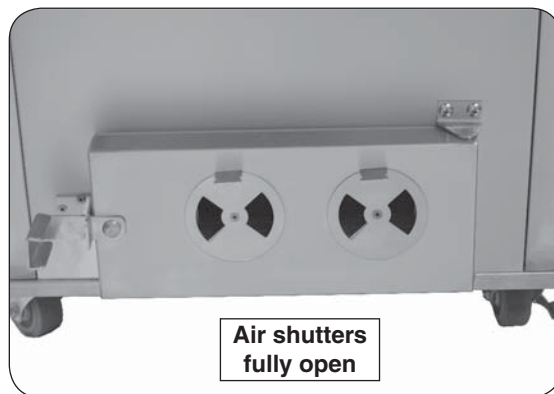

Fig. 10-1
2. Close and latch both the firebox door and the ash compartment door. Completely open the two air shutters on the ash door (see Fig. 10-1).